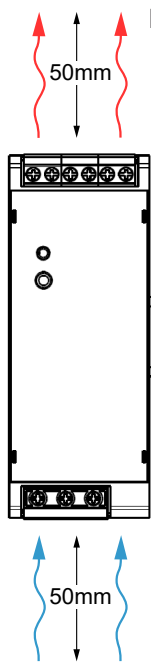

Fig. 2
- The device can be mounted onto 35mm DIN rails, compliant with the specifications of DIN EN 50022. Observe the requirements for ventilation space above and below the device (Fig. 2).